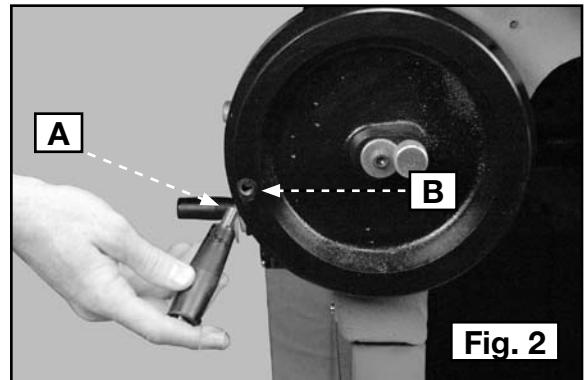

Fig. 2
Insert the threaded end of the handle (A) Fig. 2 in the threaded hole of the elevator wheel (B) and tighten it securely by turning it clockwise.